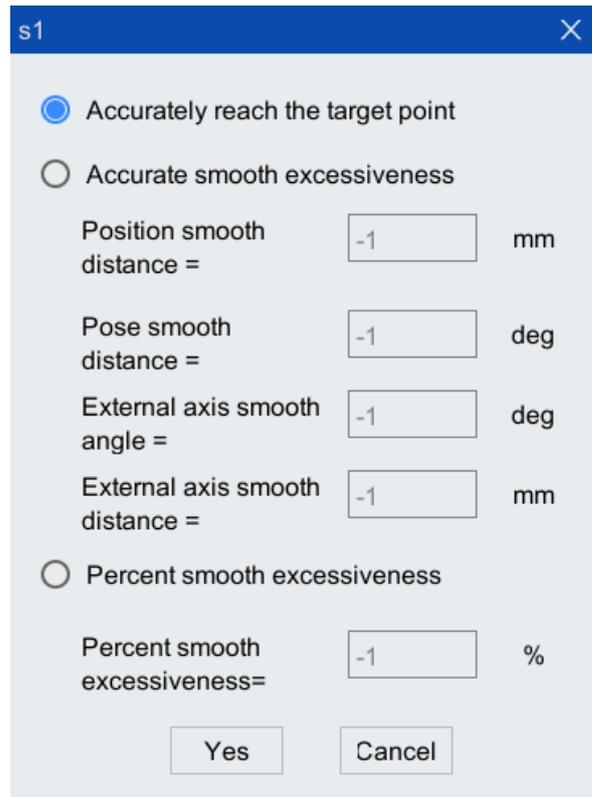

Figure 5-14 "s" variable setting box
Step4. For the slip parameter s, you can enter the value directly in the edit box to complete the slip percentage setting. You can also click <...> button to modify the specific slip value in "s" variable setting box, as shown in Figure 5-14. After modification, click <Yes> button.